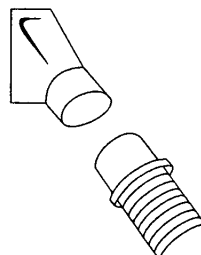

Figure 3
Step 3 Remove the exhaust air nozzle from the flexible air outlet tube (see figure 3).